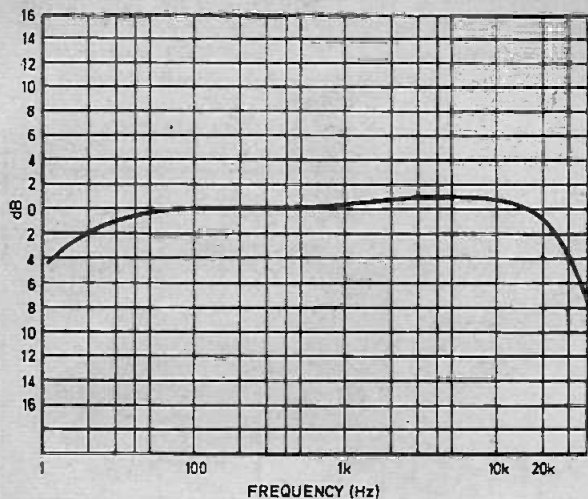

Fig. 1. Graph showing frequency response of complete amplifier.
The basic specification of the Modula 3 is given in Table 1 this, together with the graphs if Figs. 1 and 2 show the typical performance that can be expected from the completed unit.
-1dB at 30Hz and 20kHz } see Fig. 1
The frequency response curve shown in Fig. 1 shows that the output of the amplifier is almost flat from 30Hz to 20kHz. This covers the whole of the audible range and shows that any audio signal fed to the input will be reproduced at the correct level compared to any other signals.
Action of the tone controls is shown in Fig. 2 the alteration of the frequency response with treble and bass cut and lift is clearly indicated. The square wave output at 1kHz is shown in Fig. 3 this shows a good overall frequency response since a square wave is made up of a number of sine waves at the harmonics of the square wave. The slight roll-off at the leading edge of the square wave shows that the response falls at high frequency and this is confirmed by Fig. 1. However, it does not start to fall within the audible range.